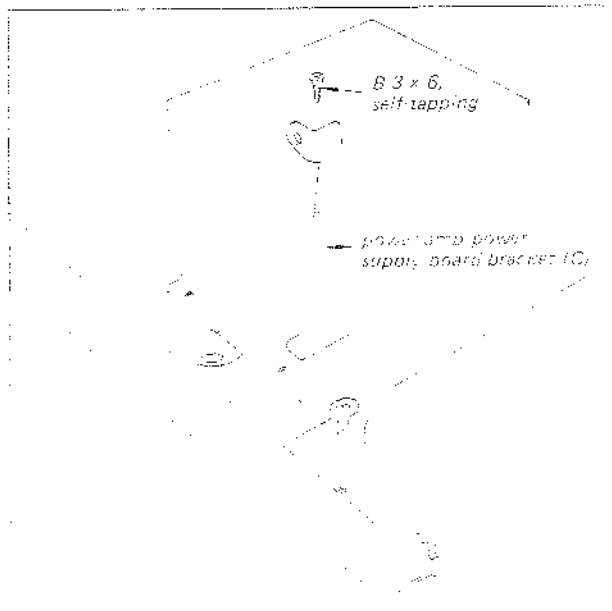

Fig. 2-6. Power amp/power supply board replacement
1. Remove the power amp/power supply board bracket (1) by taking out the screw as shown in Fig. 2-6.